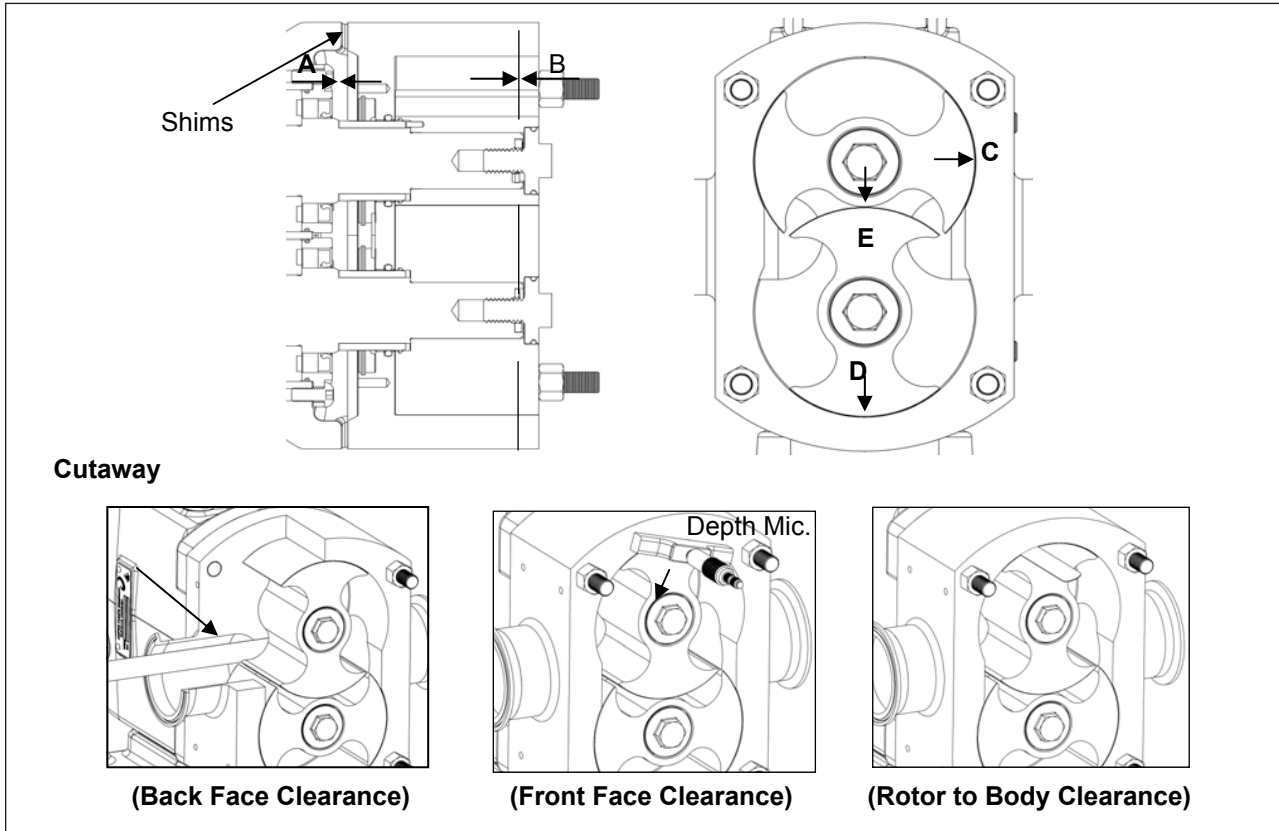

Figure 48. Critical Pump Clearances
6. Using a press and equally sized blocks, remove the front and rear bearings along with the bearing spacer. To prevent damage to the shafts make sure that both ends are protected (Figure 48). The bearings are press fit on the shaft and will require a press to be removed.